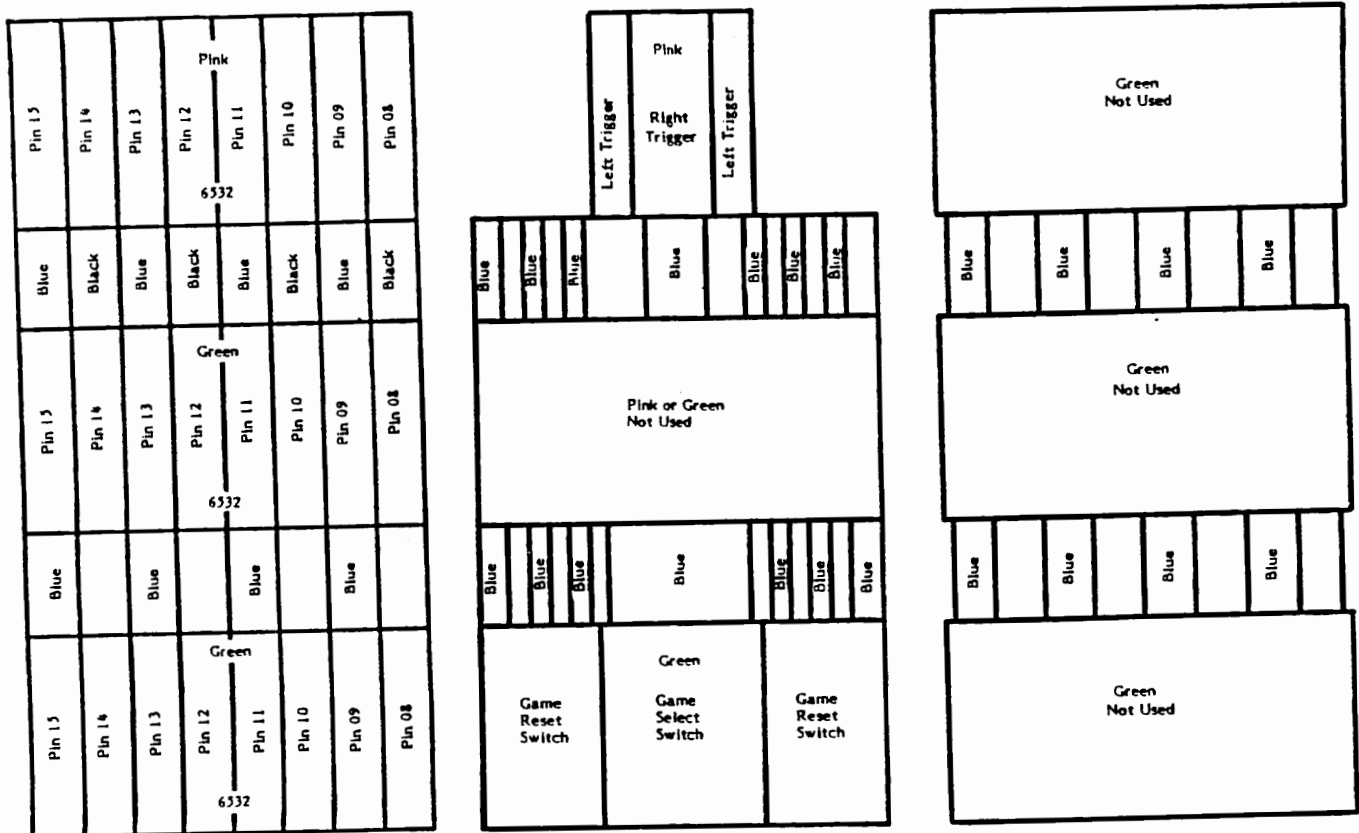

Figure 3-10. Diagnostic Matrix Screen (Shorting Plugs OUT)
1. With the blue shorting plugs removed, the matrix of nine rectangles on the screen should look like Figure 3-10.